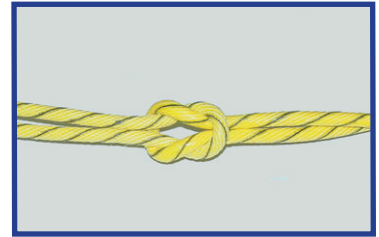

Figure 62 - Square knot.
- The **square knot** (Figure 62) is recommended for extending a trunkline system or splicing lengths of the same cord. The square knot should be made several inches back from the cut ends and tightened. It should only be used with self-to-self reliable cords.